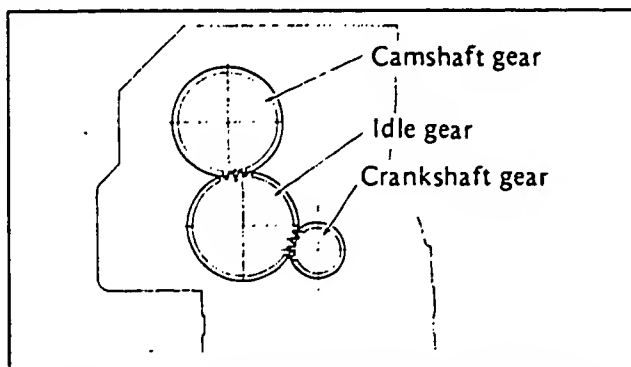

Figure 10. Idler, Crankshaft and Camshaft Gears
2. Align the timing marks of the idler gear, crankshaft gear and camshaft gear (Figure 10).